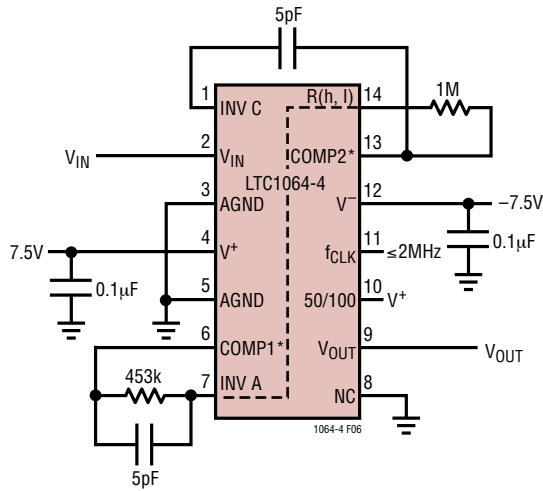
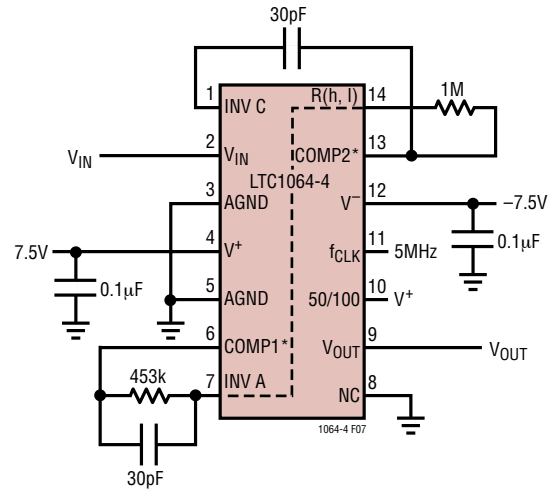

Figure 6. Compensating LTC1064-4 for Passband Ripple of  $\pm 0.1\text{dB}$  and  $f_{\text{CUTOFF}}$  Sweeps to 40kHz.
Figure 7. Compensating LTC1064-4 for  $f_{\text{CUTOFF}} = 100\text{kHz}$ , Gain at  $f_{\text{CUTOFF}} = -1.3\text{dB}$ , Table 8.
**Table 9. Gain/Phase for Figure 7.**
**INV C, COMP1, INV A, COMP2 (Pins 1, 6, 7 and 13):** To obtain a Cauer response with minimum passband ripple and cutoff frequencies above 20kHz, compensating components are required. Figure 6 uses  $\pm 7.5\text{V}$  power supplies and compensation components to achieve up to 40kHz *sweepable* cutoff frequencies and  $\pm 0.1\text{dB}$  passband ripple. Table 7 lists the typical amplitude response of Figure 6. Figure 7 illustrates the compensation scheme required to obtain a 100kHz cutoff frequency; Graph 4 and Tables 8 and 9 list the typical response of Figure 7 for 25°C and 125°C ambient temperature. As shown the ripple increases at high temperatures but still a  $\pm 0.25\text{dB}$  figure can be obtained for ambient temperatures below 70°C.